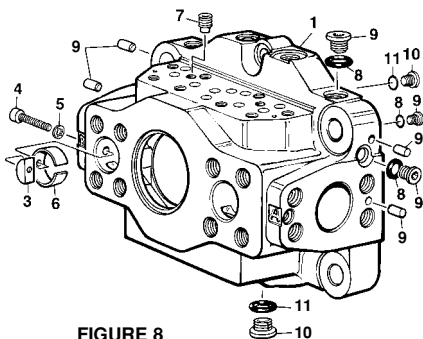

FIGURE 8
See figure 8. Position the port block (1) on a clean flat surface with two open ports up. The finished faces must not be scratched or damaged.
PARTS LIST FOR FIGURE 8